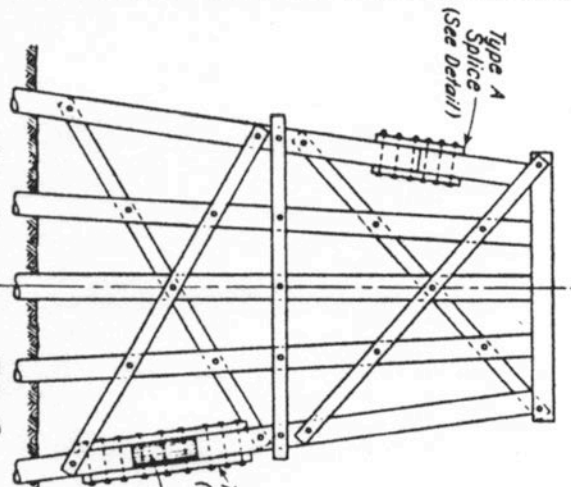

FIG. 5
5. Except for splices above ground (Figs. 5 and 6) piles shall be cut off at the ground line or at a sufficient depth below to obtain solid wood.